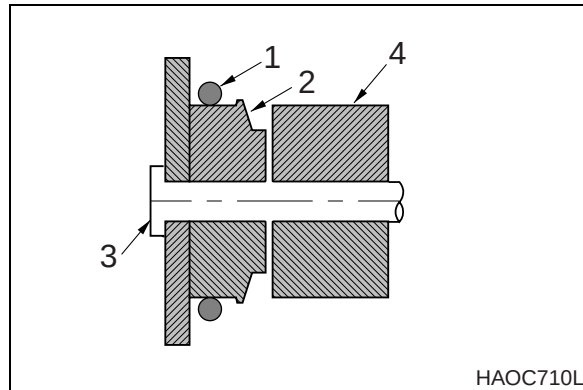

Figure 3
2. Roll the old O-ring (1, Figure 3) onto the boss (2) around the bucket pin (3). Remove the bucket pin and move the arm or bucket link (4) out of the way.
4. Realign the arm or link with the bucket pin hole and insert the bucket pin (3, Figure 3).